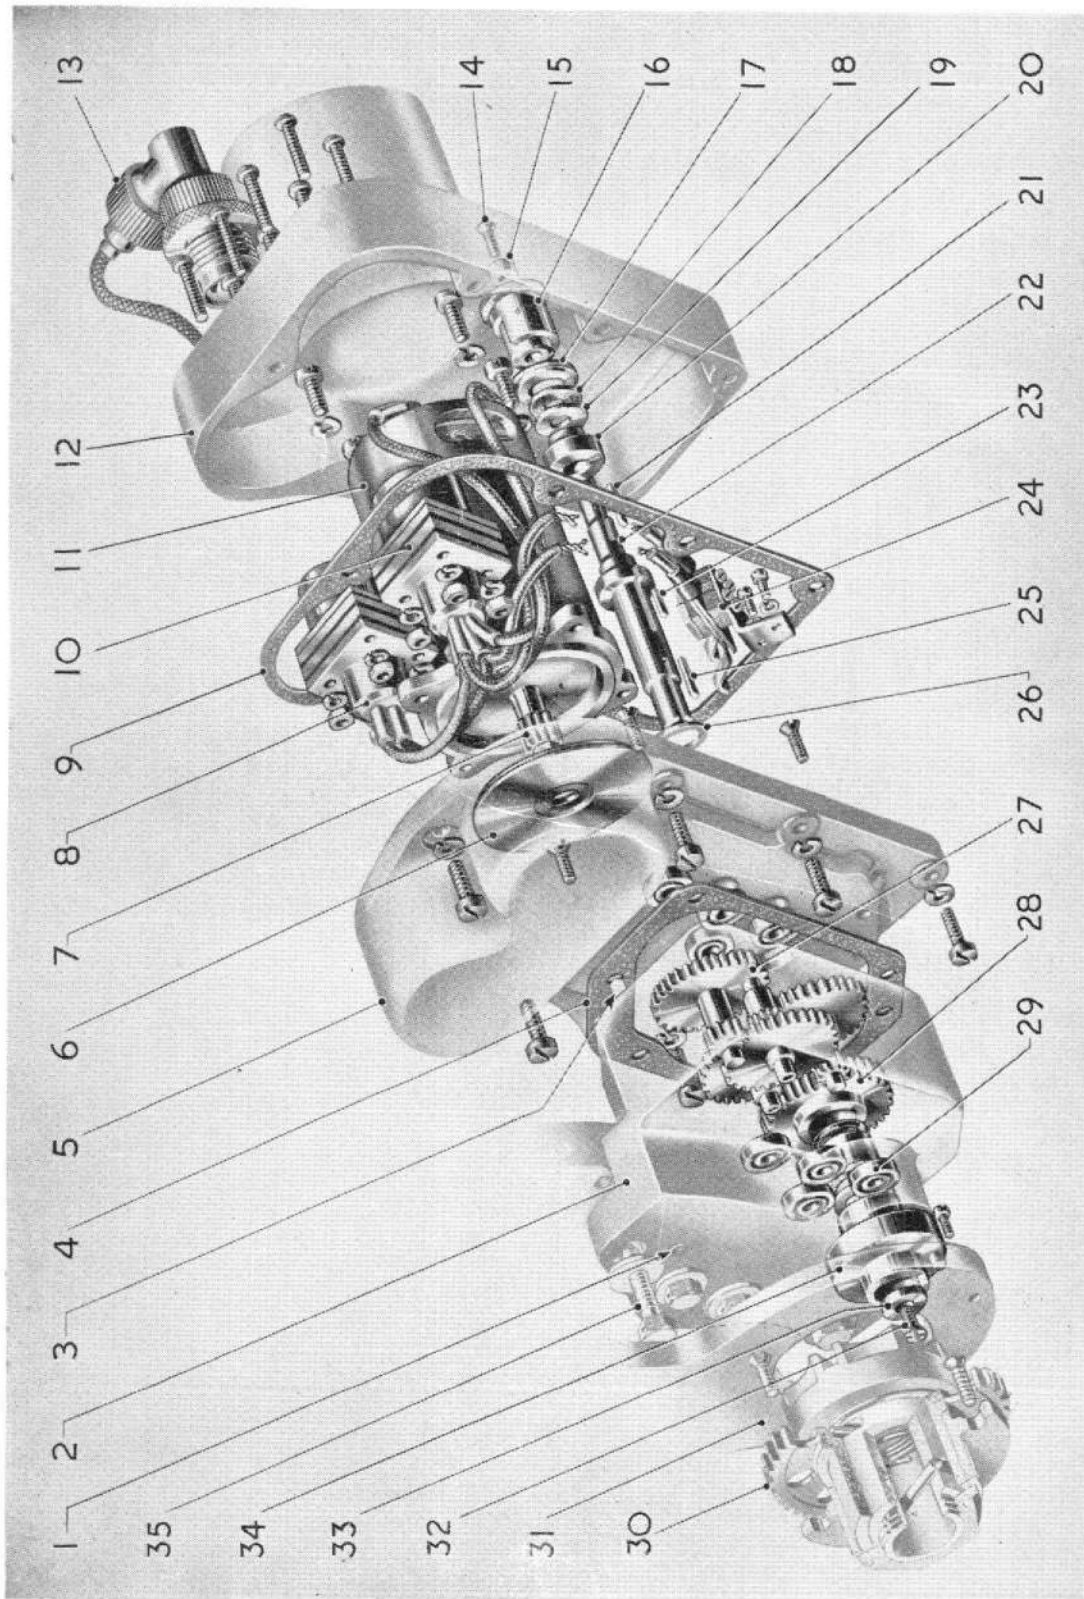

Fig. 24. Exploded view of indexing motor and switch gear
- (1) Remove the bolts which attach the assembly to the barrel locking plate (1, *fig. 24*) and remove the two locating dowels which are threaded internally for extraction purposes.
- (2) Remove the six cheese-head screws which secure the motor cover (12) to the motor mounting plate (5) and gently separate these two components to obtain access to the breeze plugs (8) and (10). Be careful not to pull on the wiring.
- (3) Remove the two breeze plugs from the motor cover and the two screws which secure the limit switch assembly (24) then unscrew the four bolts which retain the motor (11).
- (4) Lift the motor, switch assembly and breeze plugs—together with the associated wiring—from the motor mounting plate and remove the greaseguard assembly (6).
- ◀ (5) Remove the gasket (9) from the motor mounting plate. ▶
- (6) Remove the locking screw and plate from the cam (16) and withdraw the cam—together with the fibre and steel washer—from the output shaft (22) and recover the drive key (21).
- (7) Remove the five screws from the motor mounting plate. Lift off the plate and gasket from the reduction gearbox (2) and remove the four reduction gears (27) leaving the remaining gear (28) in position on the output drive shaft.
- ◀ (8) Remove the four bearings (29) from the mounting plate by lightly tapping the plate on a wood block. ▶
47. If further dismantling of the reduction gear is necessary, remove the locking screw (32) and washer from the pin indexing wheel (34) and remove the wheel and key from the shaft. Hold the output gear (28) and withdraw the shaft from the gear. Remove the shims from the shaft housing and the washer from the shaft. ◀ Remove the four bearings from the reduction gear housing by lightly tapping the housing on a wood block; this block must not foul the two steel dowels in the housing or they may be dislodged. ▶
KEY TO FIG. 24